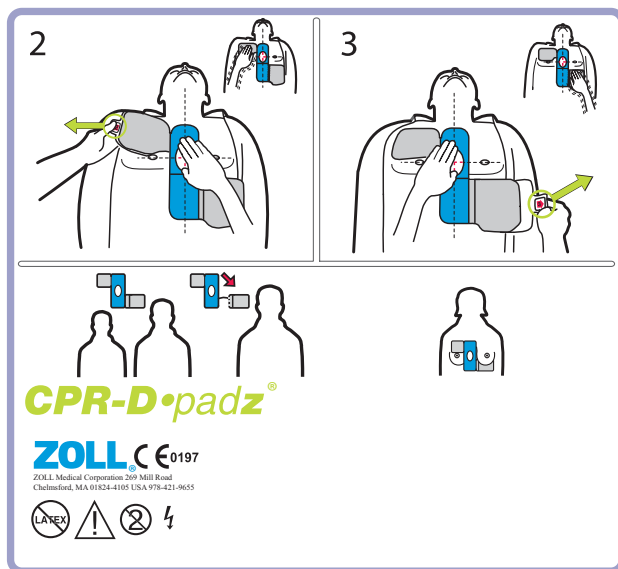

Figure 5: Placement of **CPR-D•padz**
1. Tear open the electrode package and unfold the electrodes. Place the electrodes on the victim according to the graphics on the package (see Figure 5).
NOTE If the victim is large or there is a need to place the electrode under a breast, you may need to tear away the lower pad at the perforated line (see Figure 5) and extend the pad. Place the pad slightly to the victim's left and below the victim's left breast.